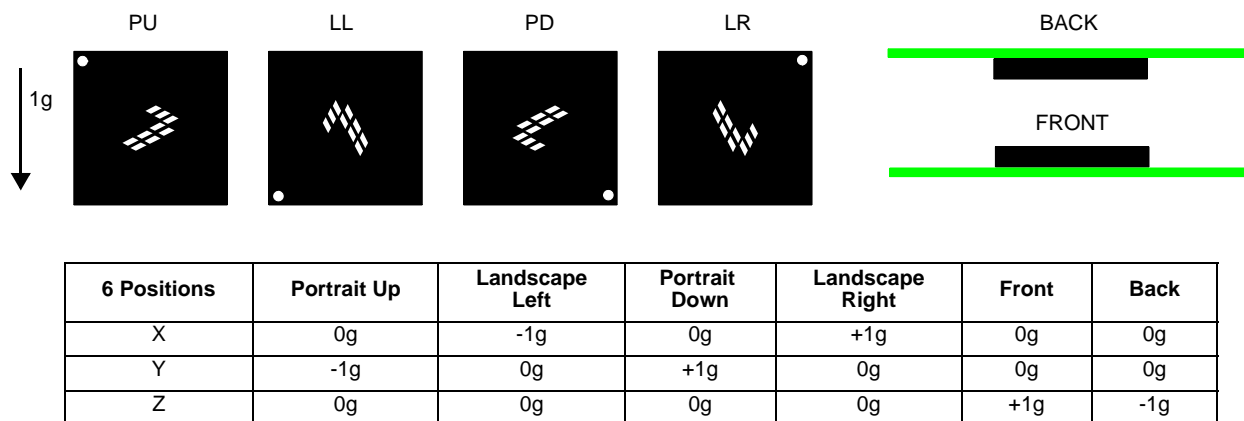

Figure 3. Offset Values on All Six Faces
4. Calculate offsets by taking the average of all four (4) 0g positions (Figure 3) or,